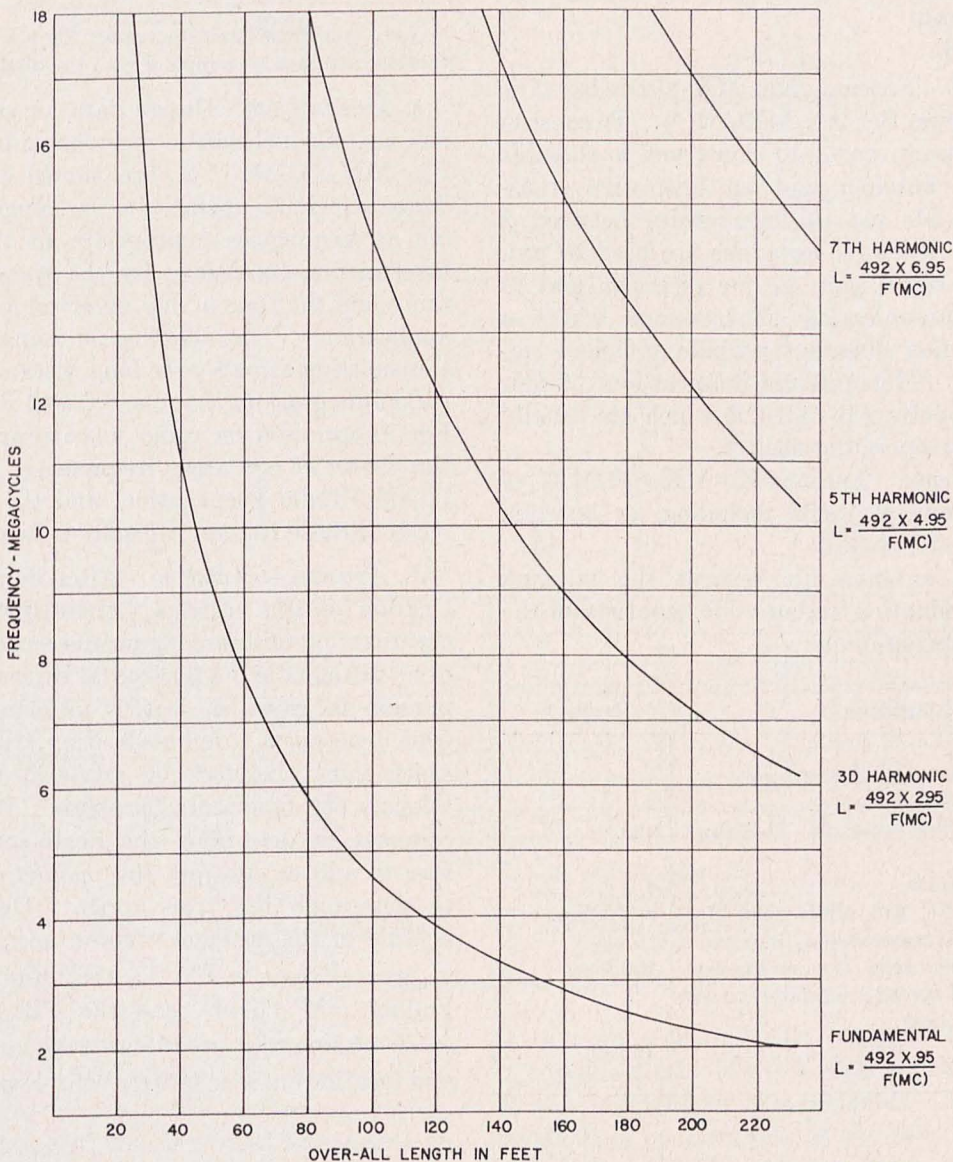
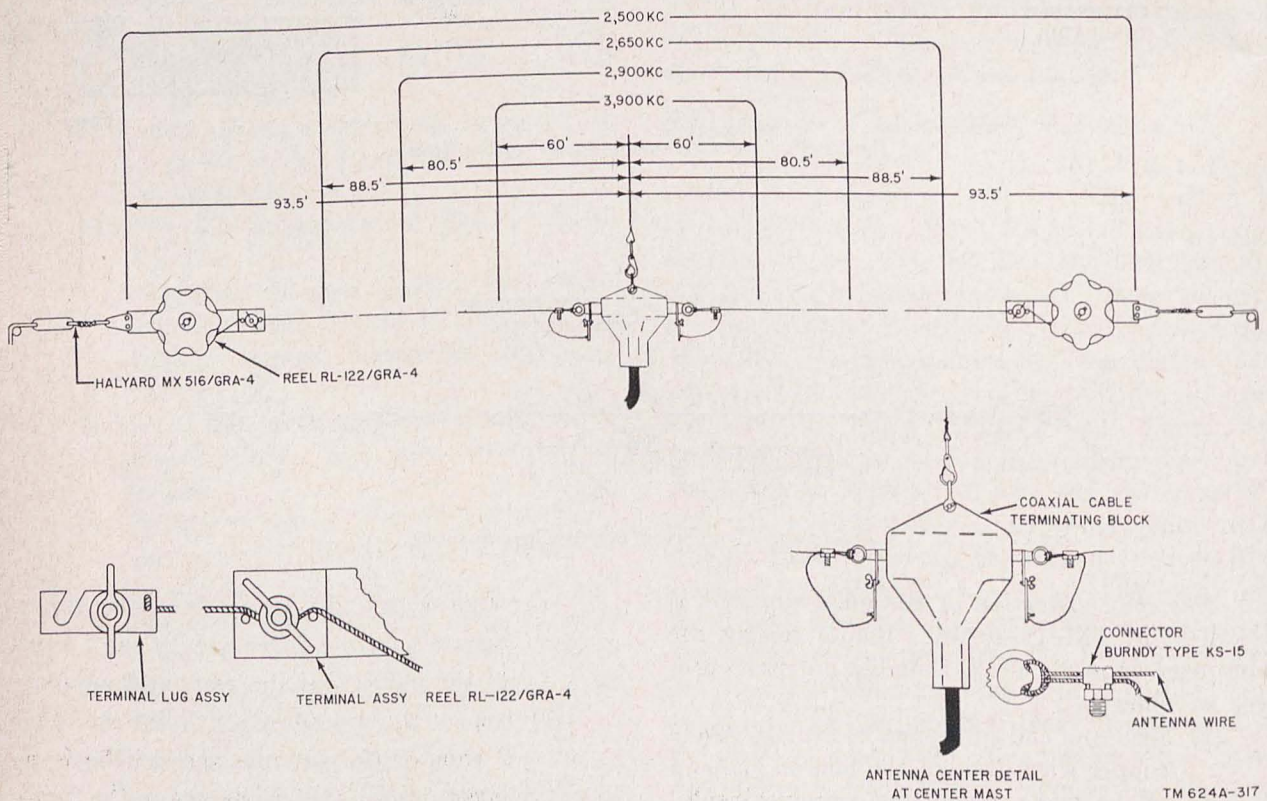

Figure 37. Frequency versus antenna length chart.
Figure 41. Construction of receiving antenna.
b. The transmitting antenna is a half-wave doublet designed to operate at the fundamental of the transmitted frequency, or on any odd harmonic of the fundamental. Figure 37 is a graph of frequency plotted against antenna length for the fundamental, third, fifth, and seventh harmonics. Normally, Radio Set AN/MRC-2(\*) operates with the antenna at its fundamental wave length. If operation of the antenna at any of its harmonics is desired, first consider the effective change in the radiation pattern. Only when the antenna is used at its
*Example:* Assume that operation is desired on frequencies of 2,500, 2,650, 2,900, and 3,900 kilocycles (kc). The graph (fig. 37), shows that these frequencies require antenna lengths of 187, 177, 161, and 120 feet, respectively.
Note. Refer to figure 37 to calculate harmonics versus length of antenna wire.
b. Each of the two antennas uses two Reel Assemblies RL-122/GRA-4 (fig. 41). Determine from the chart (fig. 37) the antenna length for the assigned frequency to be used. Unreel enough wire for one-half of this length from each of the two reels.